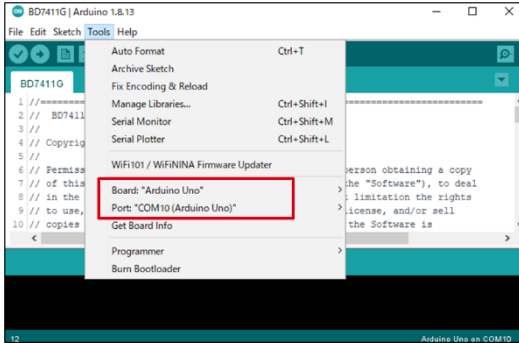

Figure 4. Board and Port Setting
1. Select [Tools]. Set Board to “Arduino Uno” and Port to “COMxx (Arduino Uno)” *3. (Figure 4)